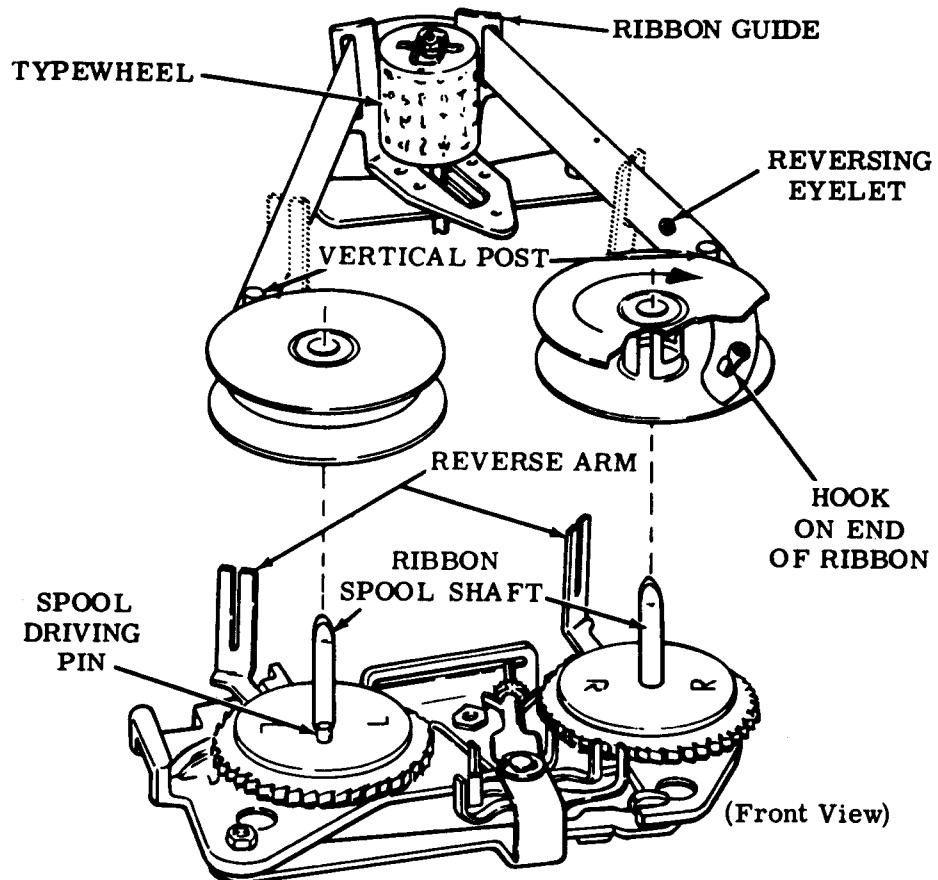

Figure 11 - Ribbon Threading
3.07 Figure 11 illustrates ribbon threading.